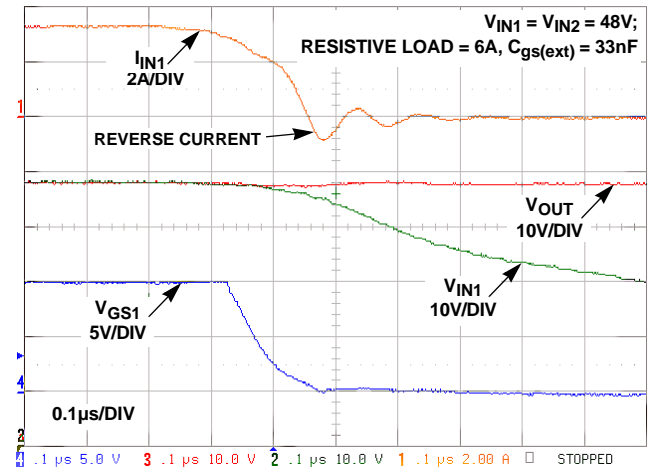

FIGURE 23. FAST SPEED TURN-OFF (MOSFET WITH QTOT = 8.4nC) AND 33nF EXTERNAL CGS
tDELAY(HS) is the High Speed Comparator internal worst-case time delay. The setup in Figure 18 can be used to perform the Input dead-short test; a pulse generator is connected between Gate-Source of QSHORT1 (use pulse mode single shot, set the frequency to <10Hz and pulse width of approximately 10ms, tRISE = 1μs). Follow steps 1 through 5 in the two feed parallel operation section. Make sure that both feeds operate in parallel current sharing mode. Proceed with the short test by applying the single pulse to the gate of QSHORT1. Once turned on, QSHORT1 shorts VIN1 causing it to fall quickly (in less than 10μs). Figures 23, 24 and 25 show the results for different combinations of CGS1 and load current. Make sure to connect the VIN1 shorting-MOSFET terminals as close as possible to the VIN-GND (J4 to J6) terminals on the EVAL board to minimize lead impedance and reduce parasitic ringing.